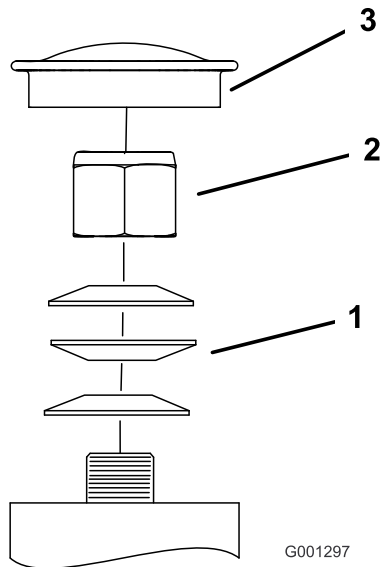

Figure 54
3. Remove the dust cap from caster and tighten lock nut (Figure 54).
4. Tighten the locknut until the spring washers are flat and then back off a 1/4 turn to properly set the pre-load on the bearings (Figure 54).
Important: Make sure the spring washers are installed correctly as shown in Figure 54.
5. Install the dust cap (Figure 54).